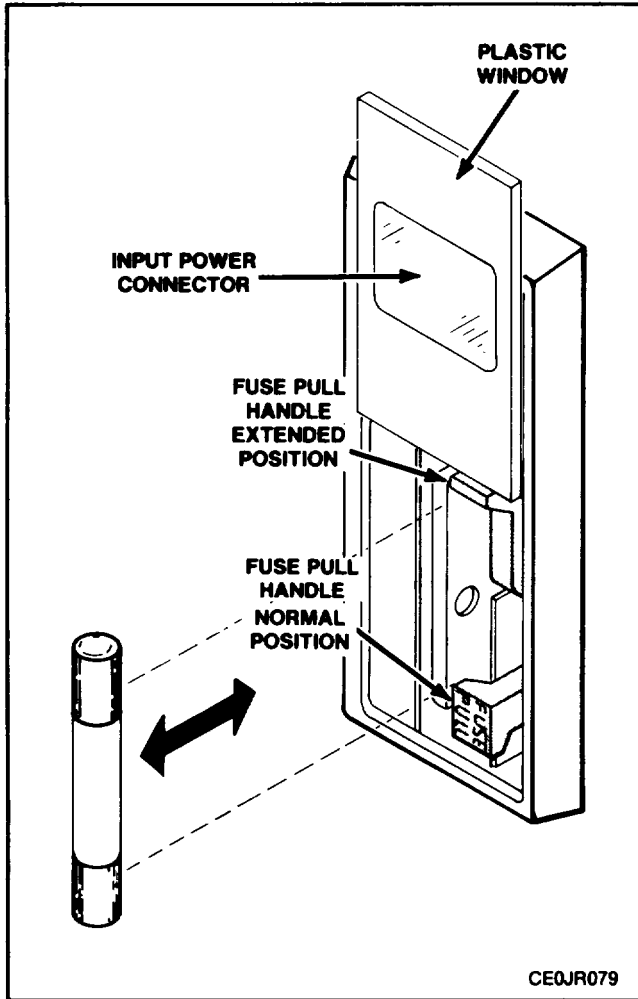

Fig. 5-1. Fuse removal/installation.
**Line Voltage Fuse Removal/Installation.** Refer to Fig. 5-1 and the following information.